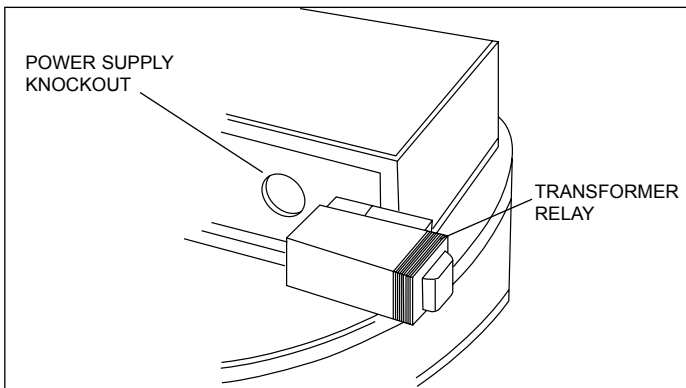

Figure 4
5. Wire the transformer relay per Figures 4, 5, or 6. Refer to wiring diagram on inside of power junction box cover.